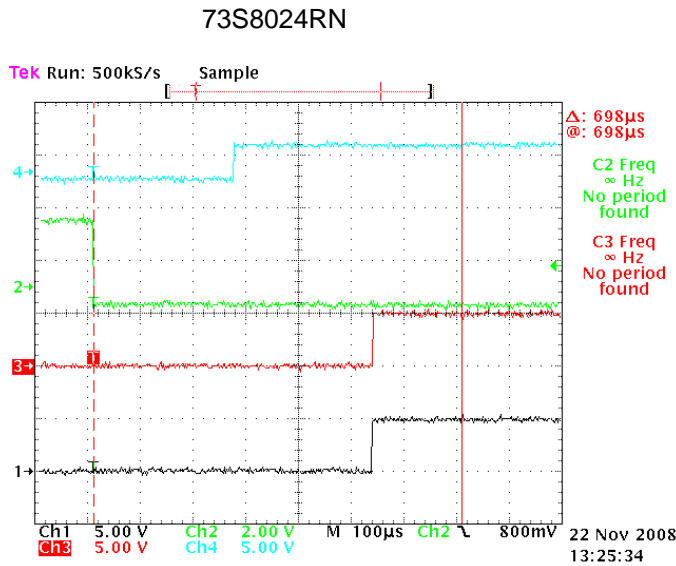
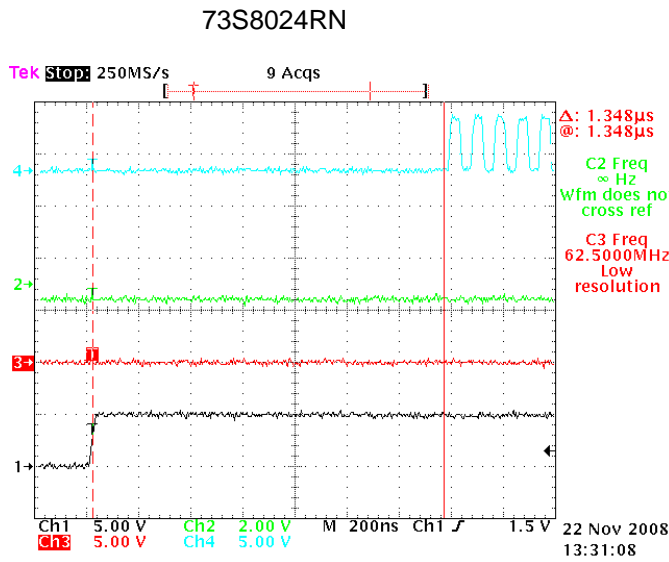

Figure 14: 73S8024RN, Case 2, Legend A
Figure 16: 73S8024RN, Case 2, Legend B
- Case 2: RSTIN is low before T0 and goes high after T1. See Figure 14 through Figure 16.